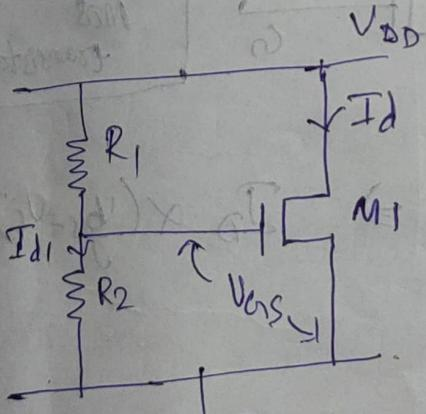

Fig. 1
- Assuming M1 transistor in saturation (Fig.1)
(Fig.1)
→ In the Fig. 1, drop across R₂ is equal to
circuit i.e. Fig. 1 is equal to $\frac{1}{2} \mu C_{ox} \frac{W}{L} [V_{GS} - V_t]^2$
→ In the Fig. 1, fixed biasing method is incorporated